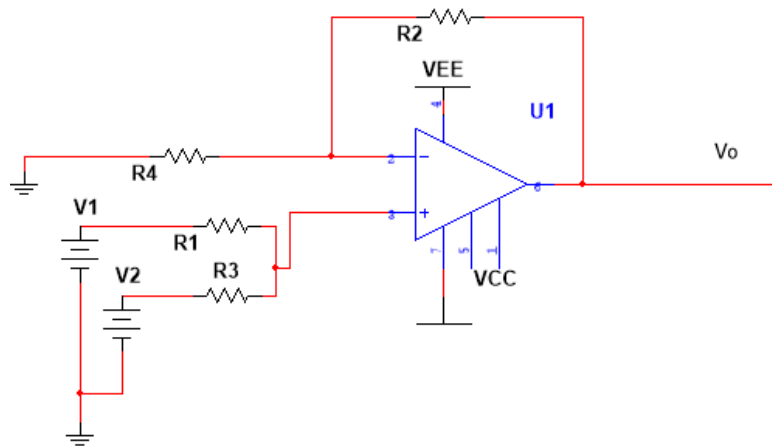

Fig 2.4: Non-inverting DC adder circuit
2. The circuit is set-up as shown in figure 2.4. The supply voltage $\pm V_{CC}$ is set at $\pm 12V$.